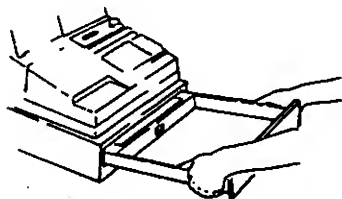

Fig. 23
3. When getting back the drawer, fit its rollers on the rails of the register and push it all the way in. (Fig. 23)